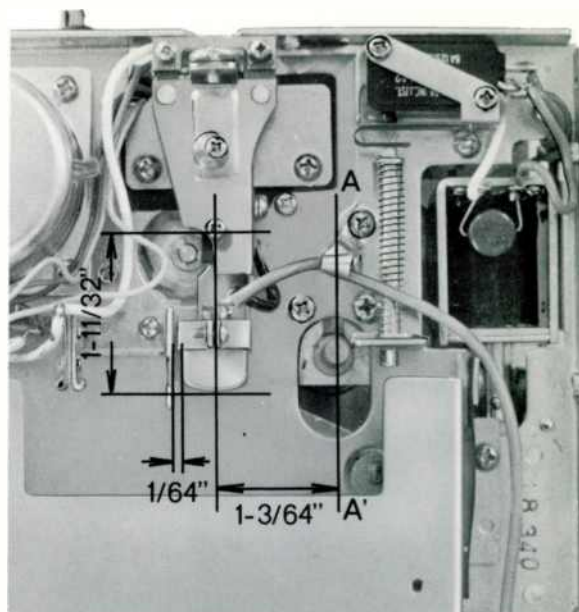

Fig. 15
- (4) Insert the new head into the head arm, set the head so that the distance from the head height adjusting screw to the head surface is $1-11/32''$ as shown in Fig. 15, and tighten the head mounting screw.
- (5) Make sure that the gap between the tape guide and the clamp of the head arm is $1/64 \sim 3/64$ in.
- (6) Adjust the head height and head azimuth.
Make certain that the line A-A' shown in Fig. 15 and the center line of the head arm is parallel and $1-3/64''$ apart from each other. Also make sure that the tip of the head height adjusting screw is at the center of the flat portion of the cam face.